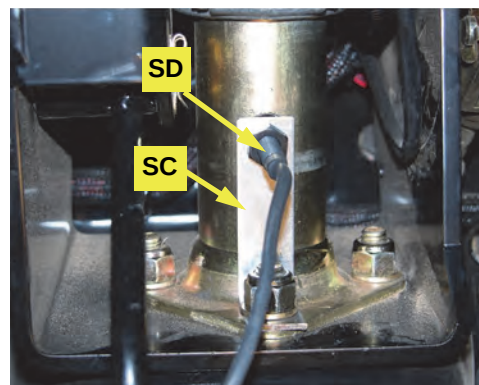

Figure 1d: Installed sensor arm
- d. Attach sensor **SD** to the bracket **SC**. Fasten the sensor arm to the steering shaft shield flange with the nut removed at 1c (Figure 1d).